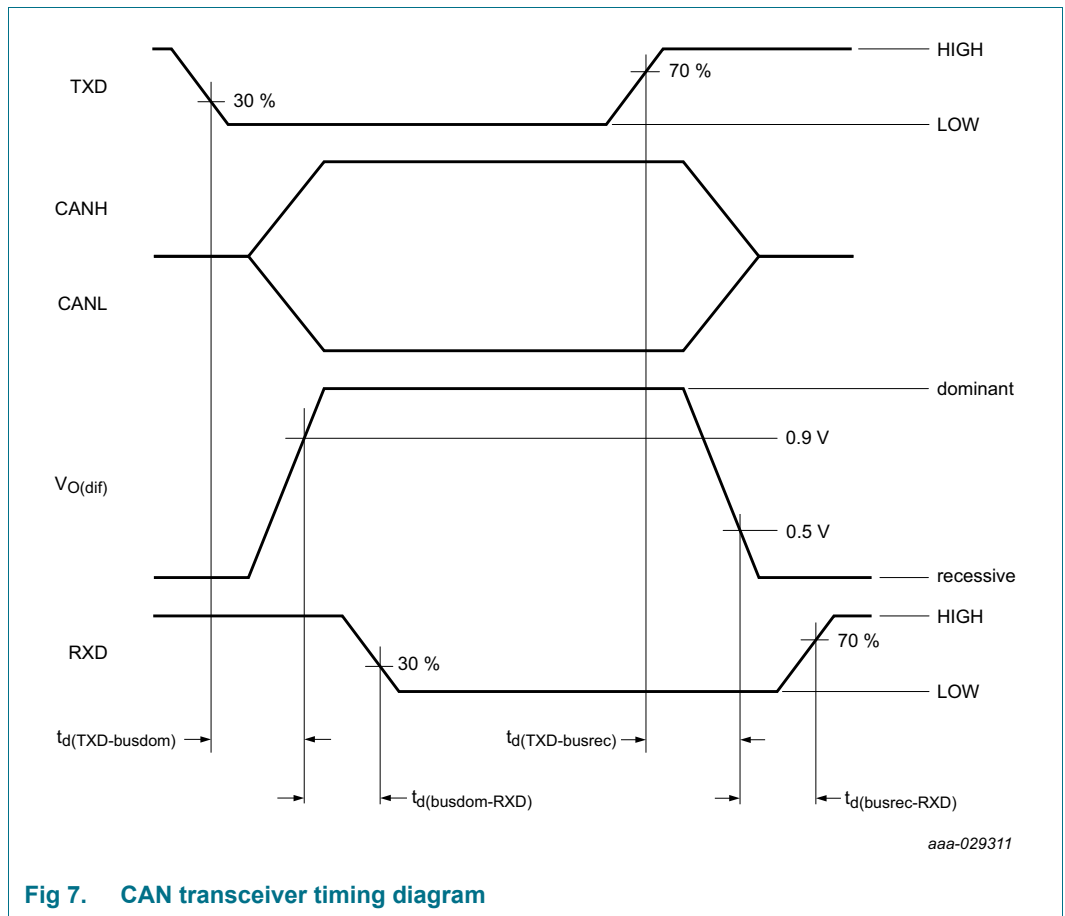
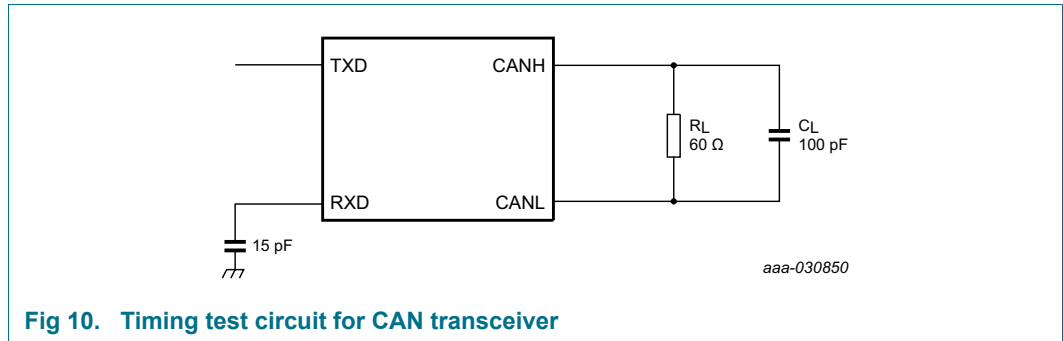

Fig 7. CAN transceiver timing diagram
Fig 10. Timing test circuit for CAN transceiver
- [2] See Figure 7 and Figure 10.
- [3] See Figure 8 and Figure 10.